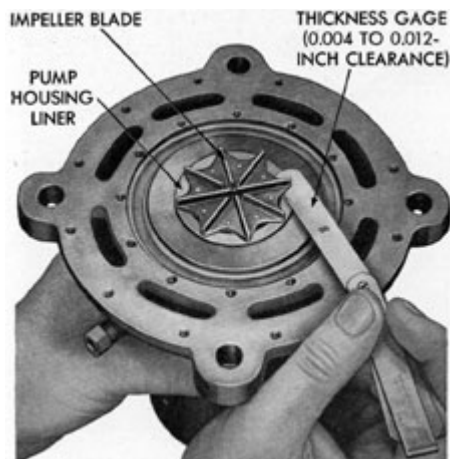

Figure 5-16. Checking impeller clearance.
**5D22. Checking the impeller blade clearance.** (See Figure 5-16.) Using a thickness gage, check the clearance between the housing end of the impeller blades, and the monel liner of the pump housing as shown in Figure 5-16.